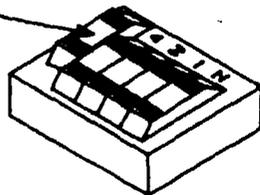

FIG. 4
[22] Attempt to get difference between 400 Hz and 1000 Hz levels per FIG. 5 or 6 by adjusting SL on 4-wire units or S2 (SL) on 2-wire units [FIG. 4], while tester sends 400- and 1000-Hz tones as applicable as many times as necessary [NOTE 3]